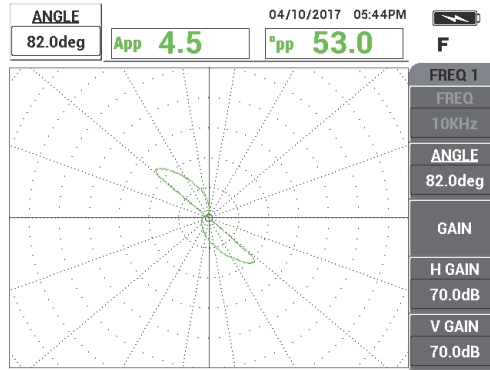

Figure 5-161 Adjusting the signal
3. Press the ANGLE key () , and then rotate the frequency 1 signal (green) until the hole signal reaches a phase of about 40° (see Figure 5-161 on page 242).